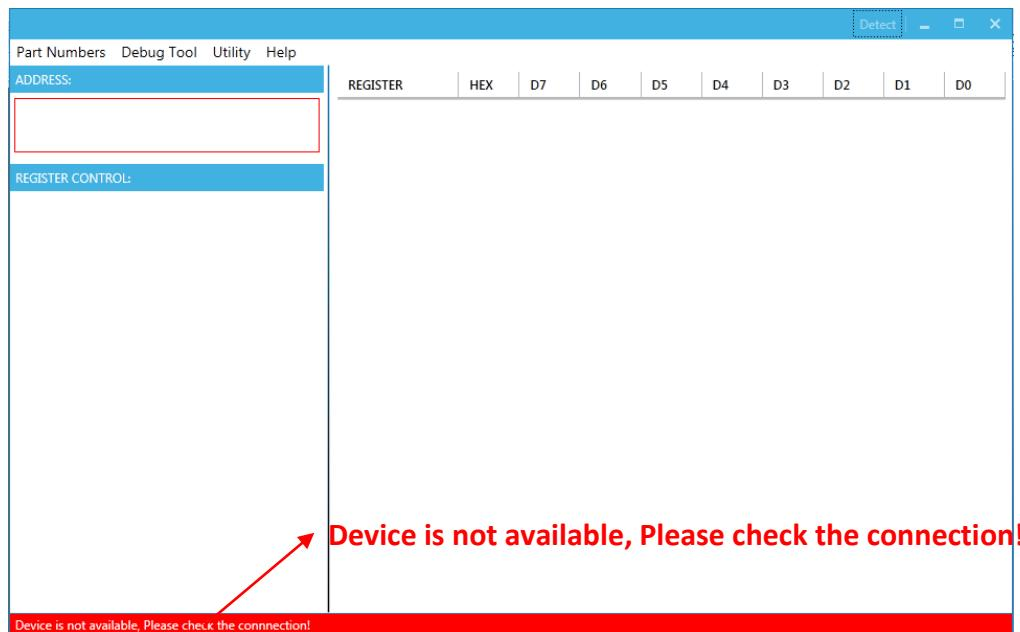

Figure 9: Warning Indicates Unsuccessful Connection – USB I²C Communication Interface Not Connected
- “Device is not available, Please check the connection!” means that the USB I²C communication interface device is not connected (see Figure 9).